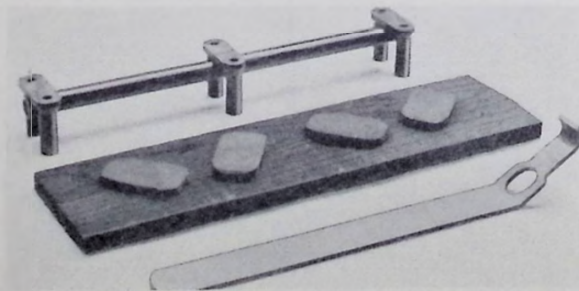

Fig. 11. Valve Extracting Tool and Board.
- (3) Figure 11 shows a type of valve extracting tool which can be purchased from the Factory. The Service No. is 24083N, and the price will be supplied on application.